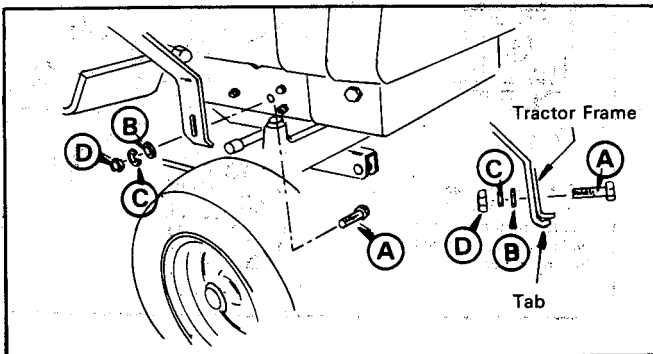

FIGURE 9.
FIG. 9. Insert 5/16" x 1" hex bolt (A) through the forward-most hole in the right side of the tractor frame from the inside out, through lift handle support bracket assembly. Secure with plain washer (B), lock washer (C) and hex nut (D). Be sure tab on lift handle support bracket is up against the tractor frame. Tighten securely.